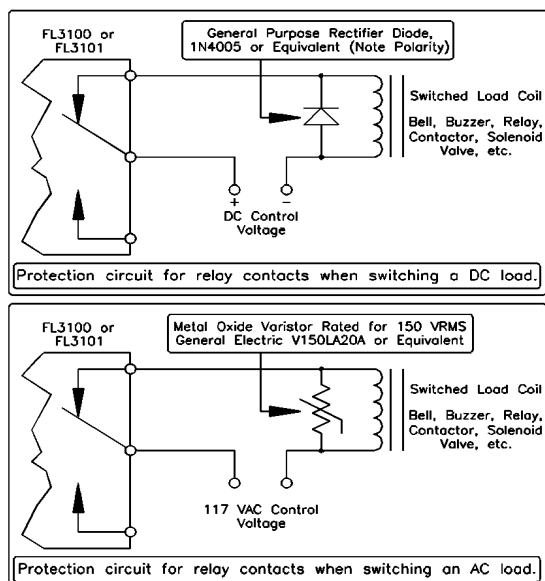

Figure 18: Protection Circuits for Relay Contacts
**WARNING:** Relay contacts must be protected against transient and over-voltage conditions (Figure 18).
For all relay connections see Figure 18.